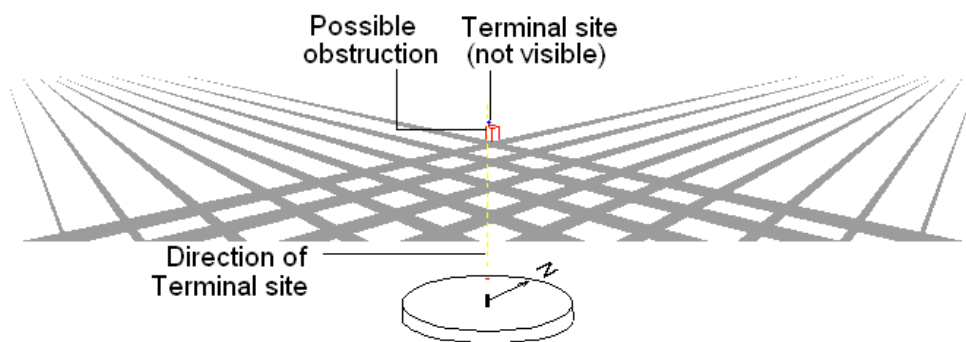

Figure 2-5: View from the BS Site
3. Observe the TS site using a compass and binoculars. A possible obstruction may be identified at this stage as shown in Figure 2-5.